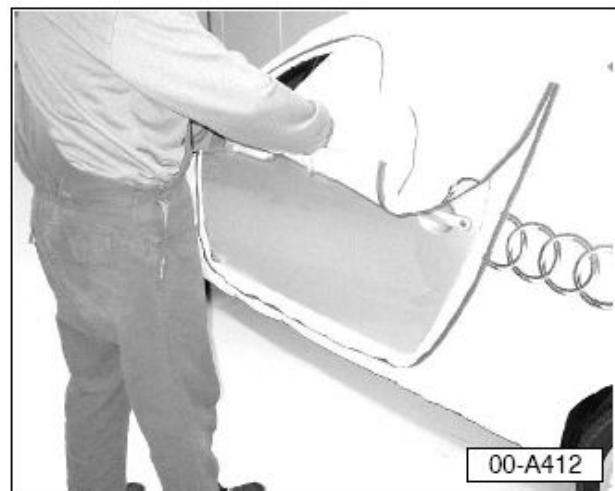

Figure 2. Roll cover upward.
2. Roll cover upward (Figure 2).